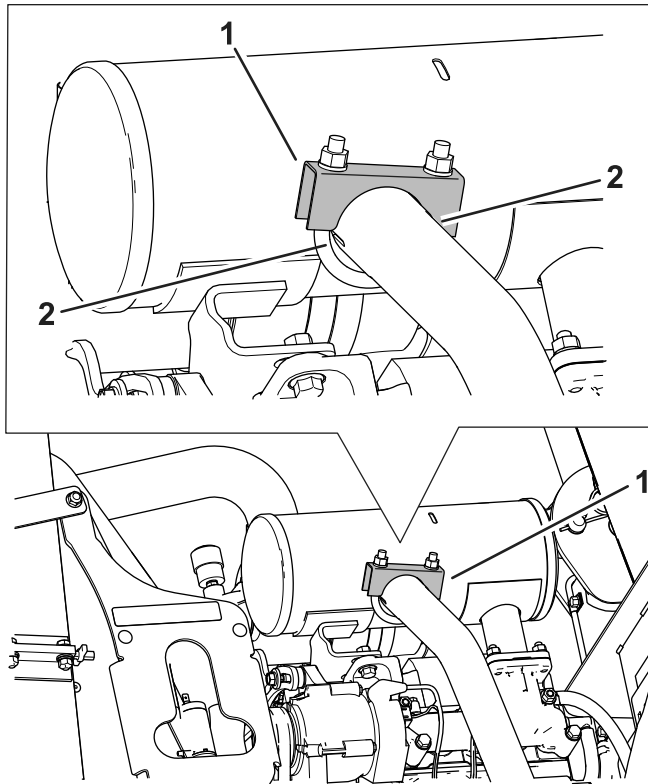

Figure 8
- Align the clamp flush with the end of the exhaust pipe and rotate it as shown in Figure 8.
Note: Ensure the clamping surface is parallel to the slots in the pipe (Figure 8).